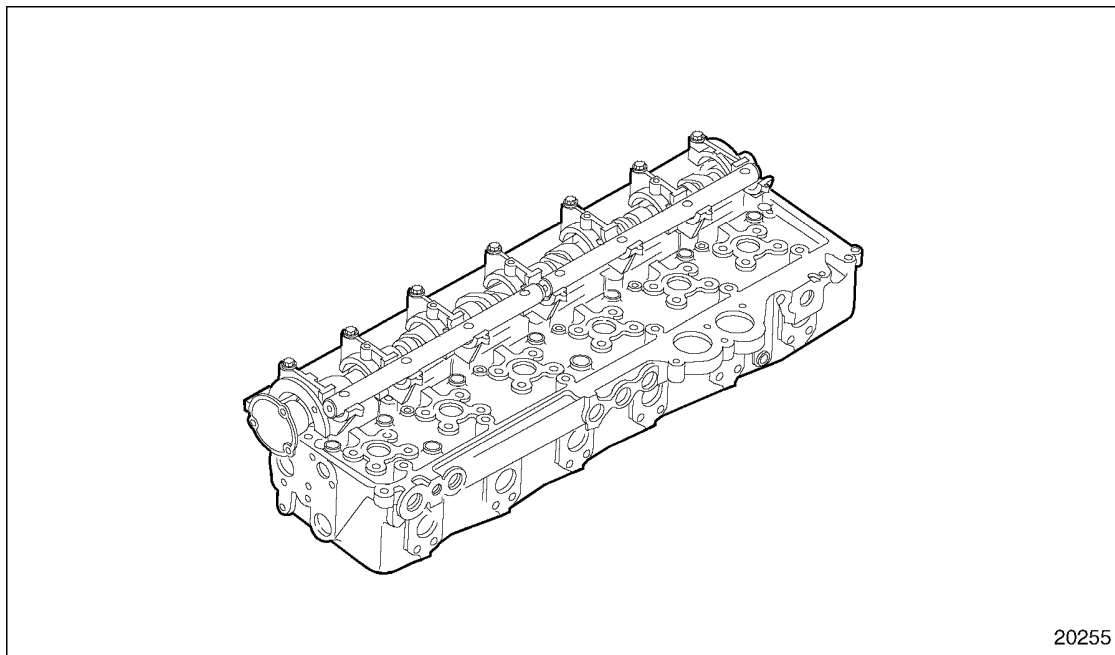

Figure 1-306 Camshaft Bearing Clearance Setup
- [e] Check the camshaft bearing clearance using plastic gaging material under each upper shell. See Figure 1-306.